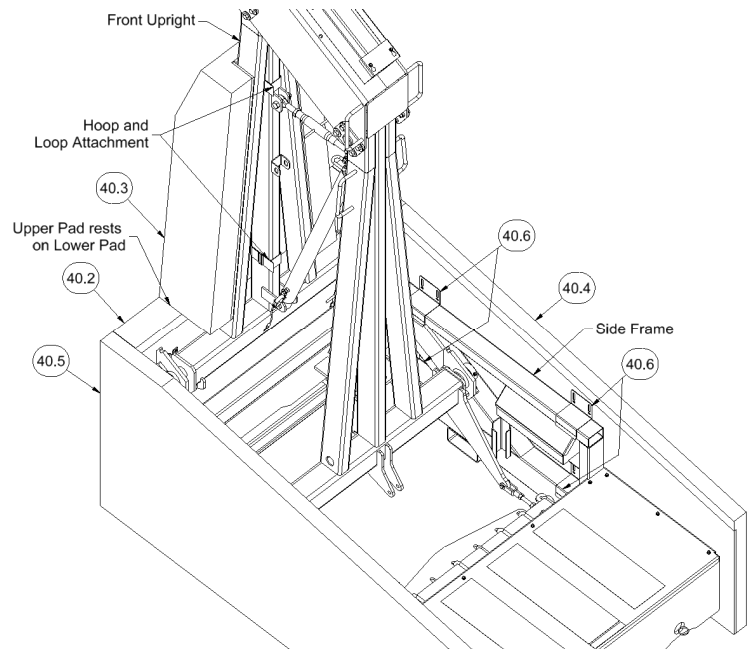

Figure 28
4. Install the Side Pads, item 40.4 and 40.5, by positioning its Pad Clips above the side frame rails and pushing the pad down. Pad Clip, item 40.6, will hook over both the top and bottom frame rails as shown in figure 28. The Pad Clip should bear on the top of each frame rail. The top of the Front Lower Pad, item 40.2, and the Side Pads should be even. Adjust the Front Pad vertically as required
5. Install the Upright Pad, item 40.3, to the center post of the Front Upright using the hook and loop straps as shown in figure 28. The Upright Pad should touch the Lower Front Pad.